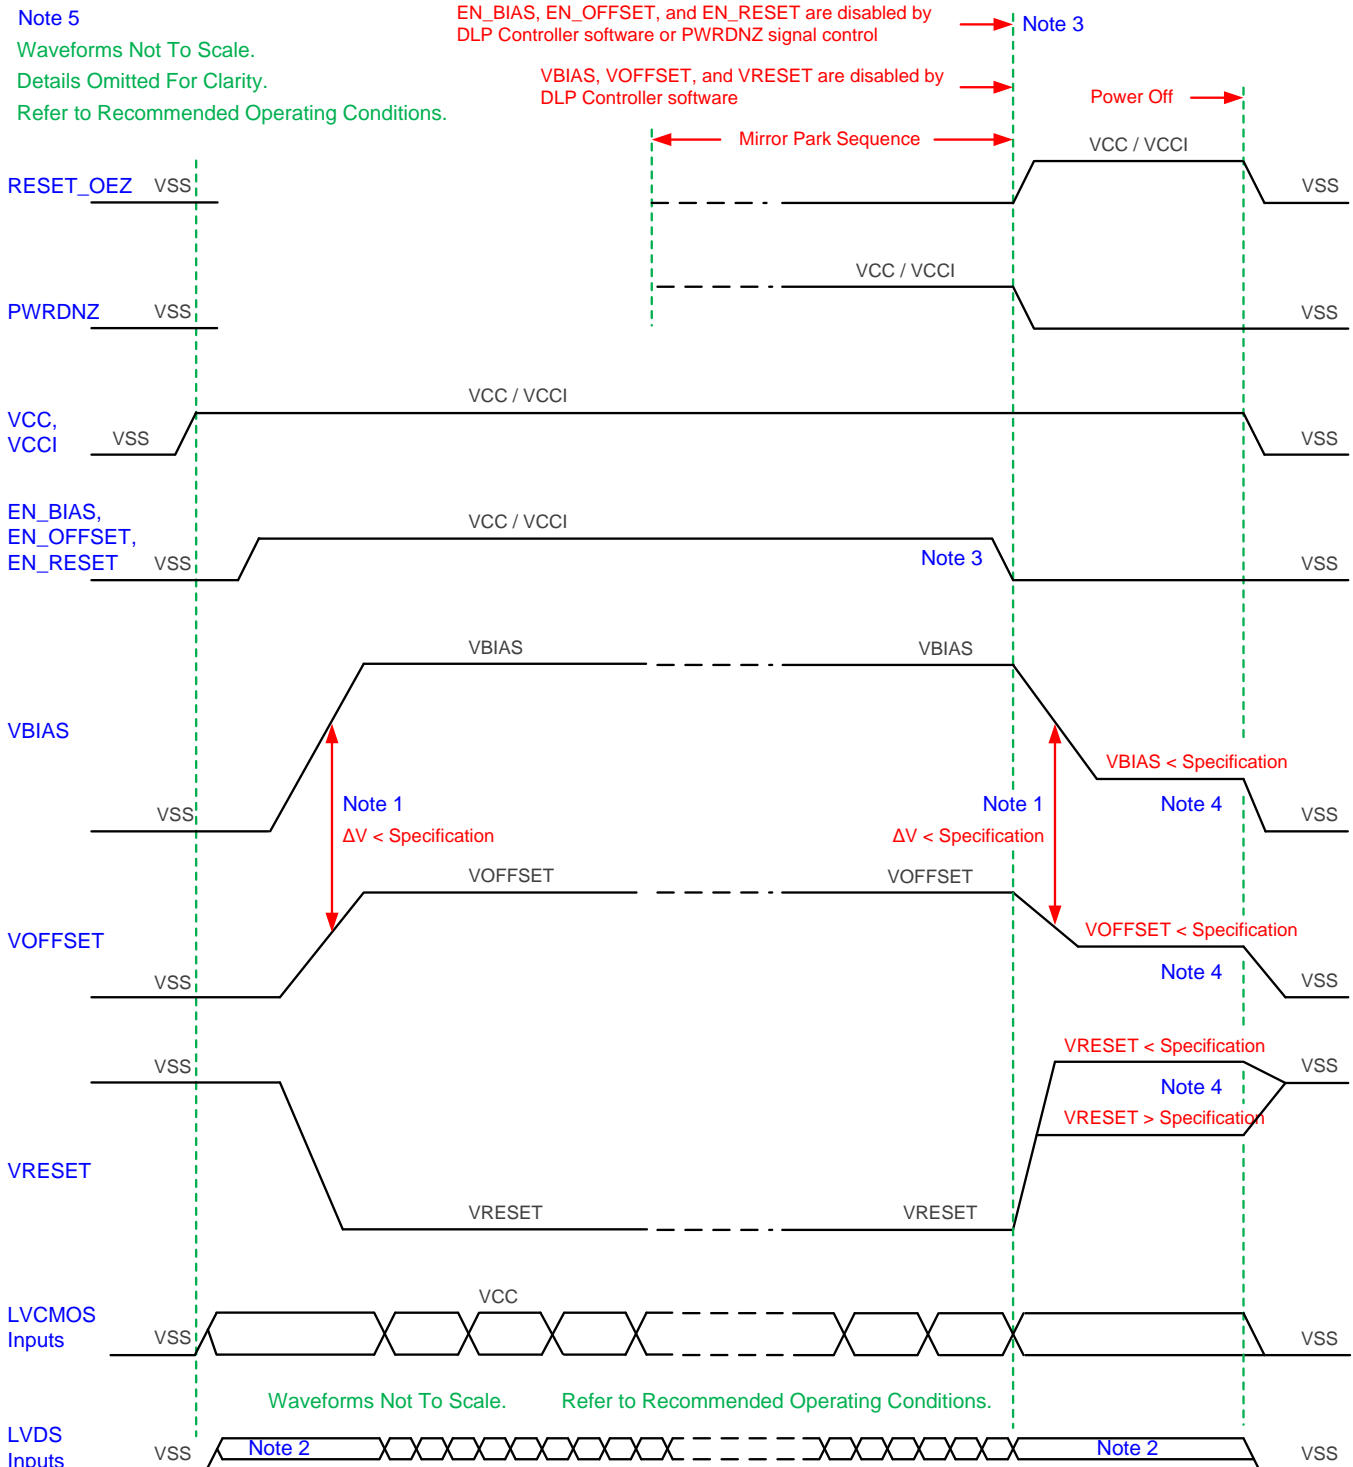

Figure 17. DMD Power Supply Sequencing Requirements
For reliable operation of the DMD, the following power supply sequencing requirements must be followed. Failure to adhere to the prescribed power-up and power-down procedures may affect device reliability. VCC, VCCI, VOFFSET, VBIAS, and VRESET power supplies have to be coordinated during power-up and power-down operations. VSS must also be connected. Failure to meet any of the below requirements will result in a significant reduction in the DMD's reliability and lifetime. Refer to Figure 17.
- Power supply slew rates during power-up are flexible, provided that the transient voltage levels follow the requirements listed in Absolute Maximum Ratings, in Recommended Operating Conditions, and in Figure 17.
- Power supply slew rates during power-down are flexible, provided that the transient voltage levels follow the requirements listed in Absolute Maximum Ratings, in Recommended Operating Conditions, and in Figure 17.